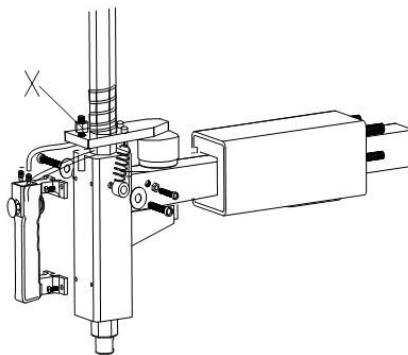

Fig 22
Note: If Vertical Arm not be locked or not meet the requirement that 2-3mm from the bottom of Mounting head/demounting head to rim, please adjust Hexagonal Locking Plate, refer to Fig 22 and adjust the (X).